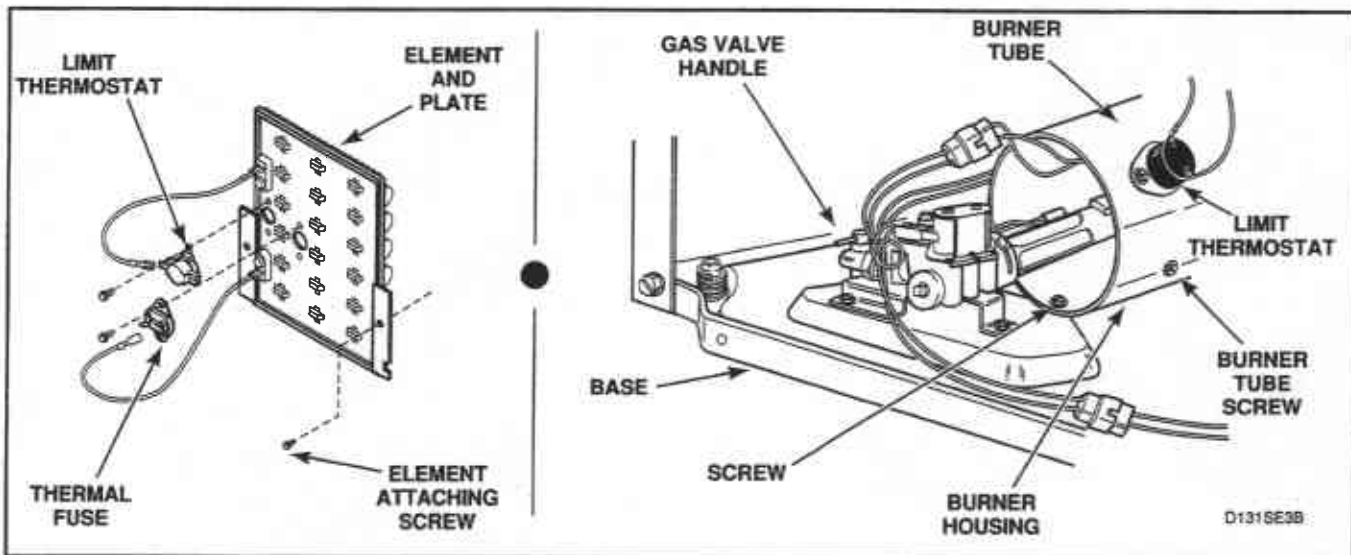

Figure 22
- (1) Remove one screw from right side of burner housing holding burner tube in place, *Figure 22*.
- Remove screw from right side of burner housing, while holding burner tube in place, *Figure 22*.
- Remove screw holding front of burner housing to dryer base and remove housing out through front of dryer, *Figure 22*.
- Disconnect wires and remove screws attaching limit thermostat to burner housing or element plate, *Figure 22*.
- Remove two screws holding element and plate to heater box and pull element down and away from heater box, *Figure 22*.
- Disconnect wires from element and plate, *Figure 22*.
- Remove screws holding thermostat and thermal fuse to element and plate, *Figure 22*.